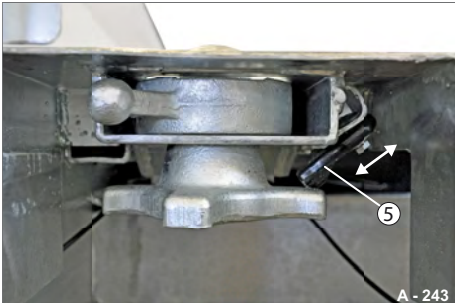

Fig. 156 "Twist-Lock" overview
- Raise the safety locking mechanism (Fig. 156/5) and secure it.